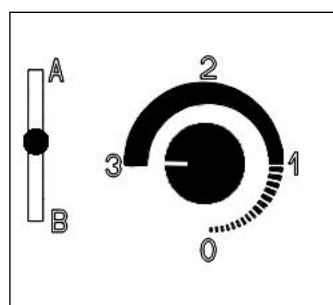
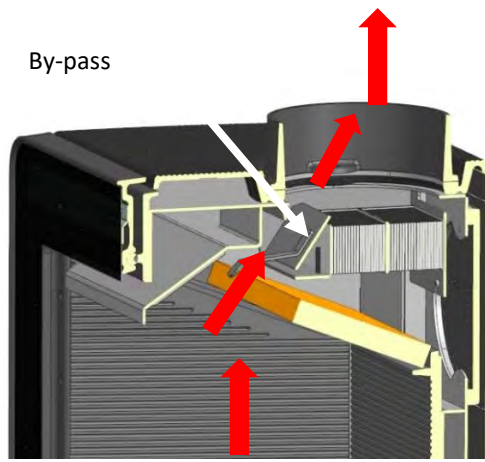

Fig. 11. Lighting and reloading
Fig. 20
1. Be sure the ash drawer is closed and secured. Slide the Burn Type Lever to the centre position (See the setting on fig.11).
2. Open the Burn Rate Knob all the way by turning to the left. This knob may be turned manually or by pressing "ON/HI" on the remote control (optional). (See the setting on fig. 11). Open the by-pass of the TruHybrid System, placed in the top inside the stove (Fig. 20).